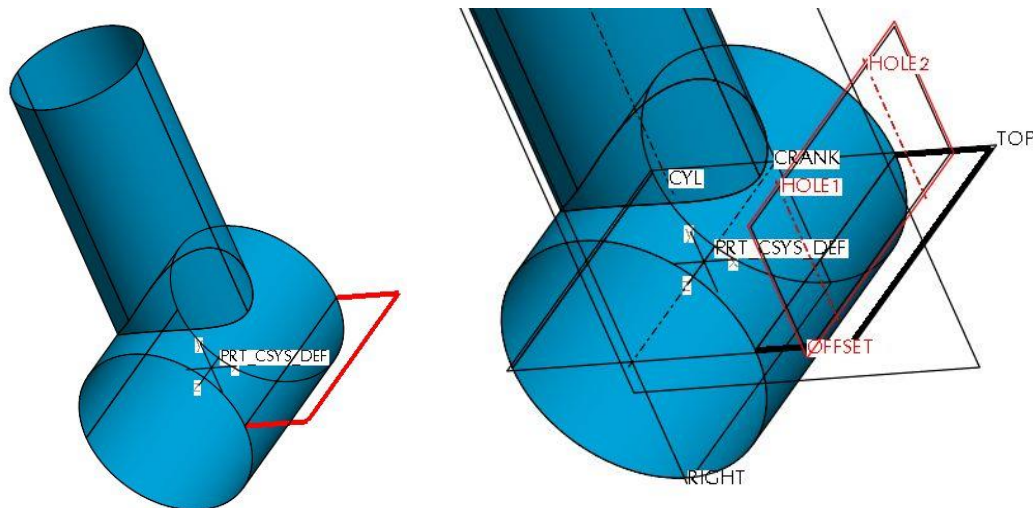

Figure 16 – Chains and references to copy
- In the dashboard, click **References** and activate the **Surface Sets** field in the References tab. Query select the entire surface quilt of **Main\_skel.prt**. Activate the **Chains** field and select the curve feature shown Figure 16. Activate the **References** field. Press **CTRL** and select datum plane **OFFSET** and the axes **HOLE1** and **HOLE2**. Click **Complete Feature** .